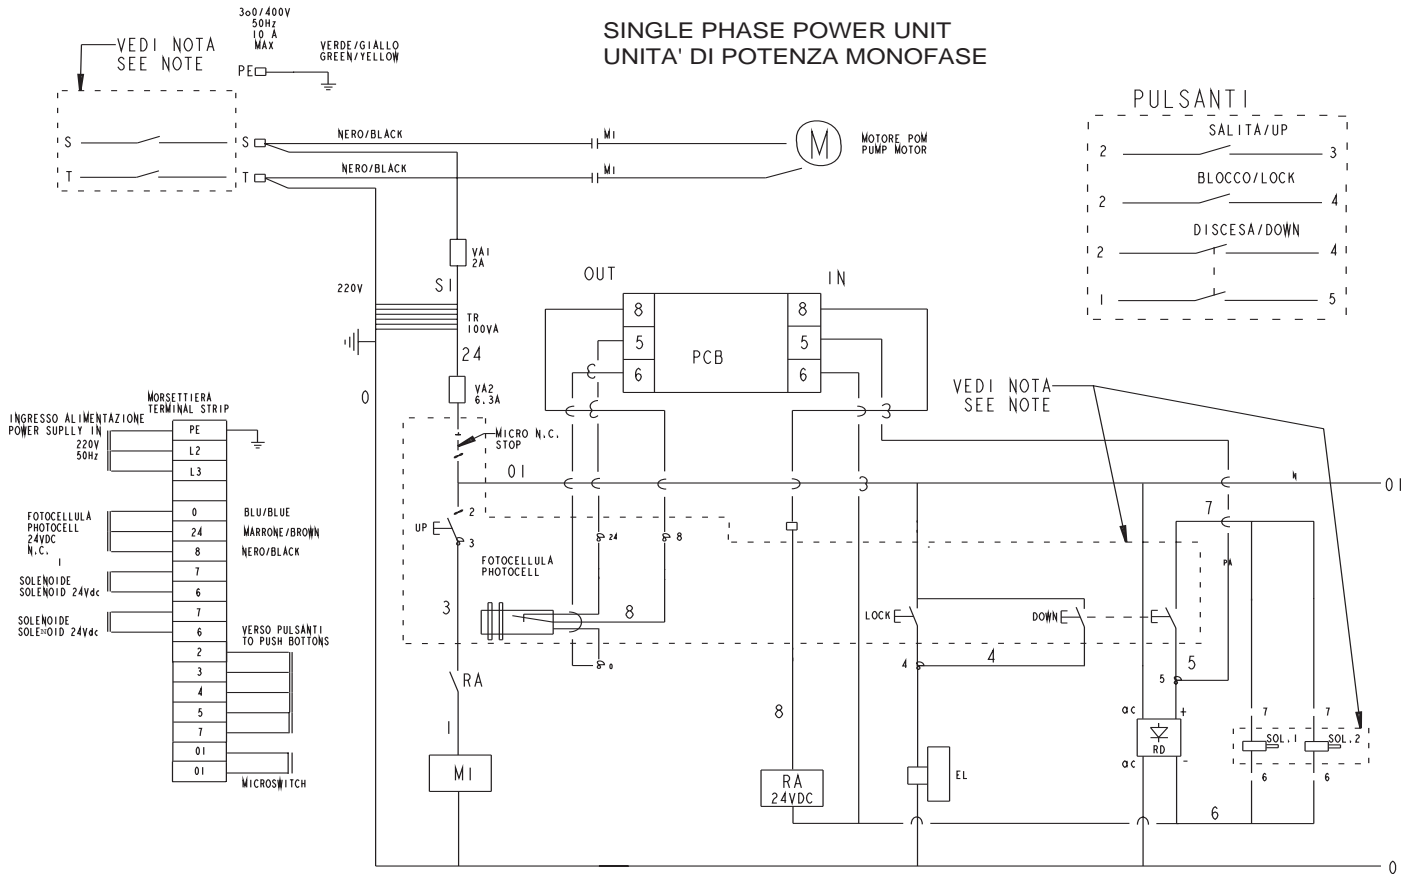

**Fig. 19**
**12. Electrical:** Have a certified electrician run 380-415 volt three phase 50Hz. power supply to Control Panel, Fig. 12. Size wire for 15 amp circuit. See Motor Operating Data Table, Fig. 19 e 20.